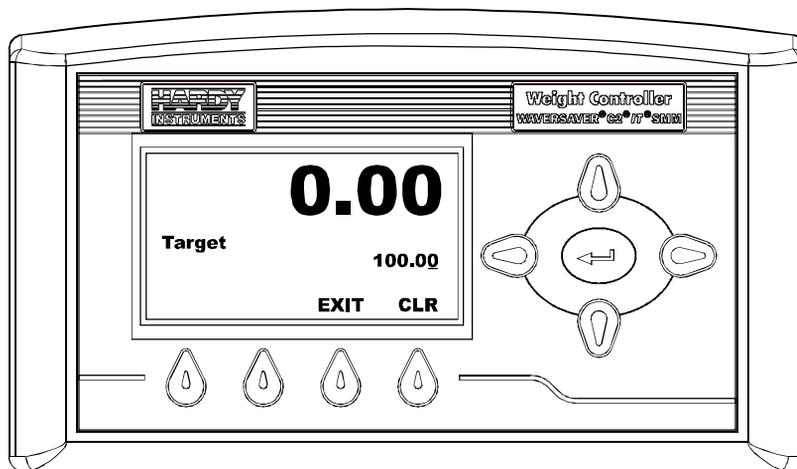

FIG. 59 SET POINT/TARGET MENU
- Step 12. Press the Enter button. The Target Menu appears. (See Fig. 59)